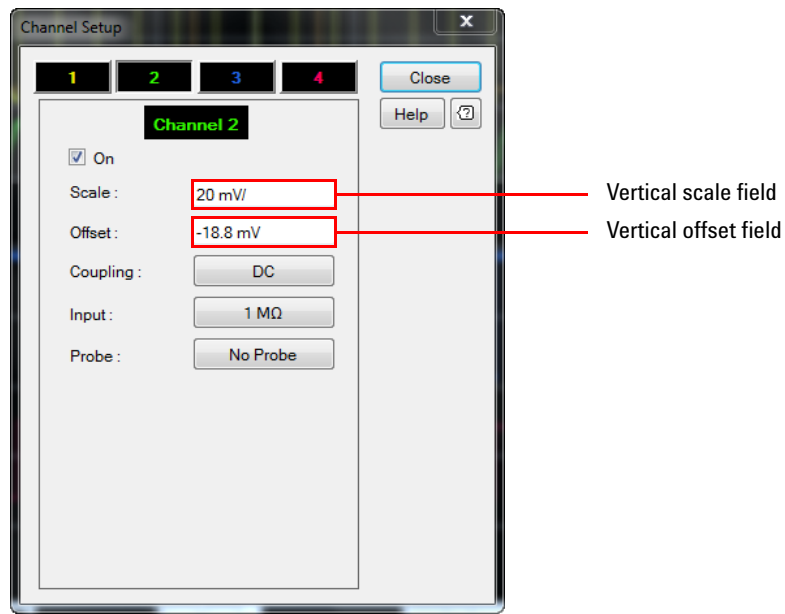

Figure 2-10 Vertical scale and offset field for the video input channel
- 4 For video input channels, select the vertical scale field on the Channel Setup dialog to adjust the vertical scale as shown in Figure 2-10.
- 5 Select the vertical offset field on the Channel Setup dialog to adjust the vertical offset as shown in Figure 2-10.